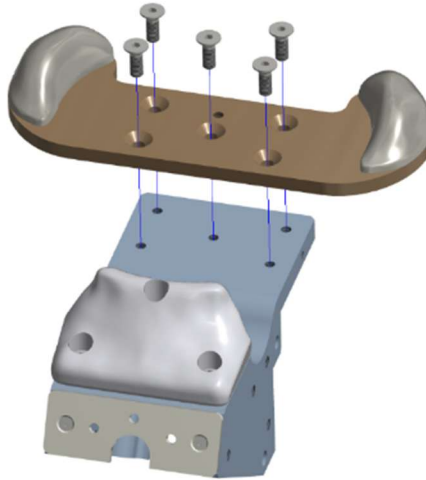

Figure 8-24. Separate the Ischium Bone Mount Plate (474-4542-A) from the Center Pelvic Bone (474-4541)
- 8.2.21 Separate the Ischium Bone Mount Plate (474-4542-A) from the Center Pelvic Bone (474-4541) by removing five M5 X 0.8 X 14 LG. FHCS (Figure 8-24).